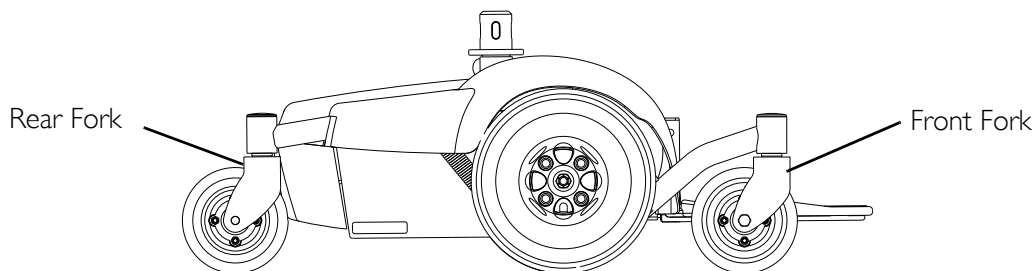

FIGURE 5.3 Lifting/Stairways
NOTE: For this procedure, refer to FIGURE 5.3 on page 27.
5. Ensure that the casters are oriented as shown in FIGURE 5.3.